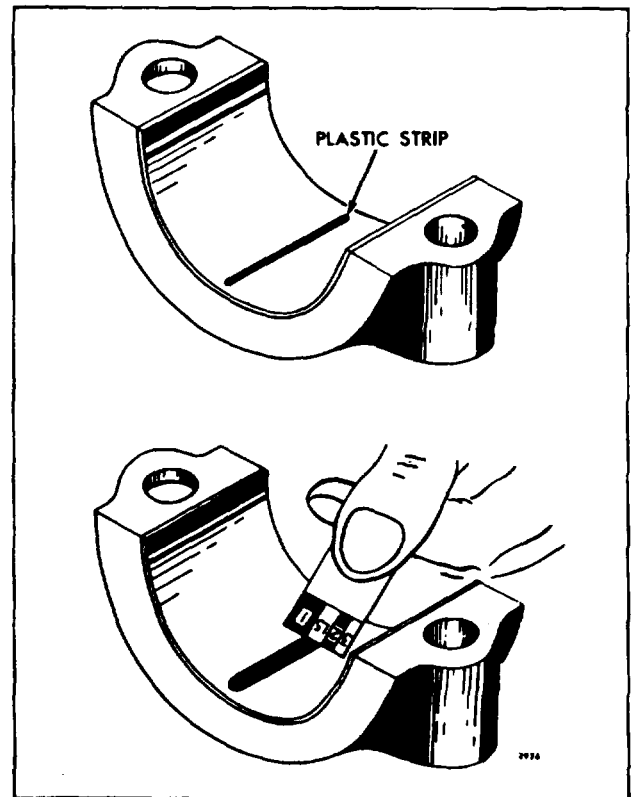

Fig. 1. - Using Plastic Strip to Measure
2. Place a piece of the plastic strip the full width of the bearing shell about 1/4" off center (Fig. 1)
5. the width of the flattened plastic strip at its widest point with the graduations on the envelope (Fig. 1.). The number within the graduation on the envelope indicates the bearing clearance in thousandths of an inch. Taper may be indicated when one end of the flattened plastic strip is wider than the other. Measure each end of the plastic; the difference between the readings is the approximate amount of taper.